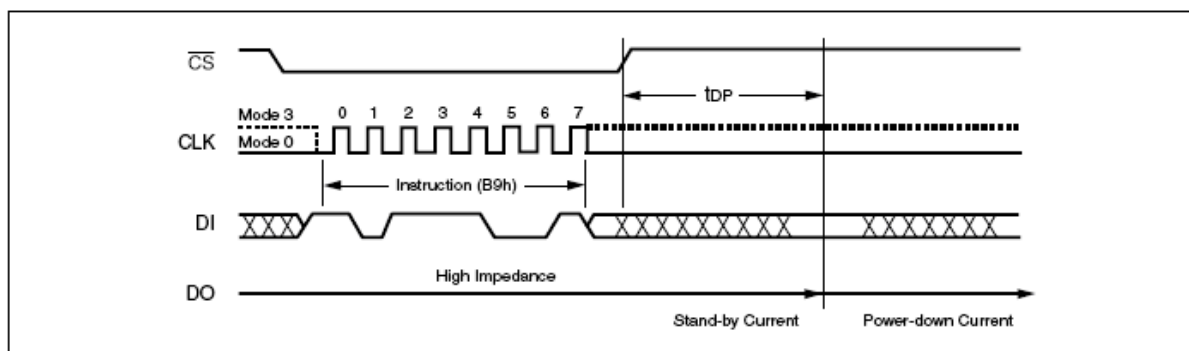

Figure 14. Deep Power-down Instruction Sequence Diagram
The instruction sequence is shown in Figure 14. Chip Select (CS#) must be driven High after the eighth bit of the instruction code has been latched in, otherwise the Deep Power-down (DP) instruction is not executed. As soon as Chip Select (CS#) is driven High, it requires a delay of t_{DP} before the supply current is reduced to I_{CC2} and the Deep Power-down mode is entered.